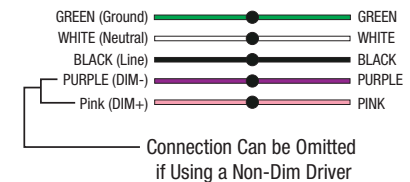

Figure 4
4. Attach the luminaire to the mounting plate (**Figure 4**).